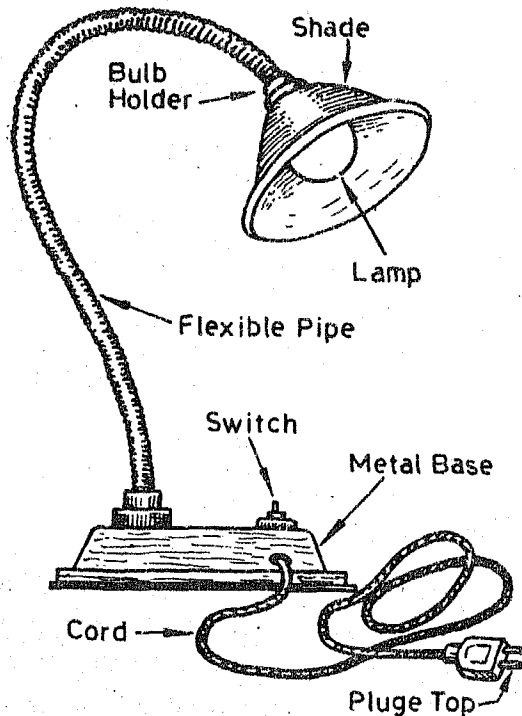

Fig.12.8 Table Lamp
**Table Lamp :** A table lamp employs a bulb of 40w/60w /100w. There are some special lamps also available in the market. All lamps work on 220v/230v, 50 Hz supply. The main parts of a table lamp parts are shown in Fig. 12.8. It is connected to supply at a light load (5 ampere socket) which